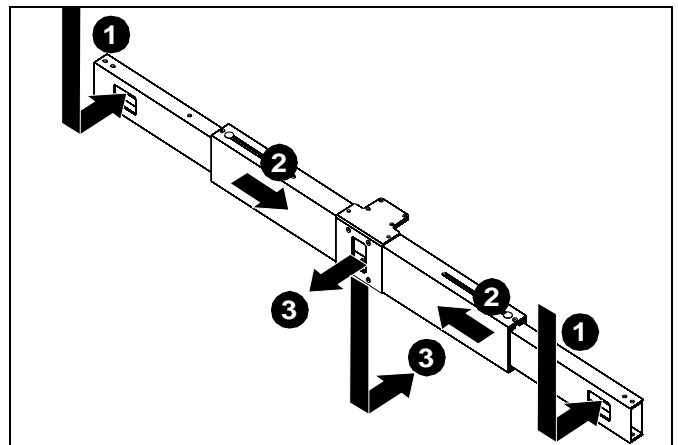

Figure 10
- While supporting both sides of display, align four mounting buttons on display or interface bracket with four mounting holes in head assembly. (See Figures 10 and 11)